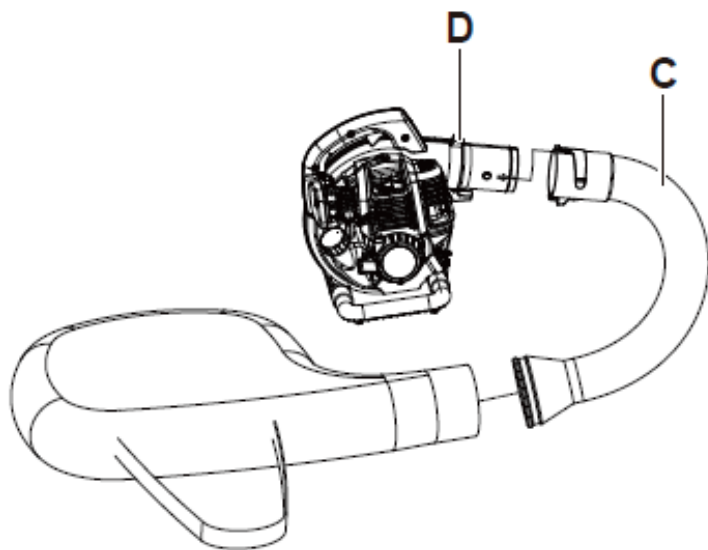

Fig. 5
- 2) Align the slots in the curved tube (C) with the with the bumps on the blower outlet (D) Slide the tube on and rotate downward till it locks in place. When properly assembled the tube will curve downward (Fig.5).
- 2) While holding the machine, twist the the curved tube counterclockwise until it unlocks from the machine. (Fig.5)